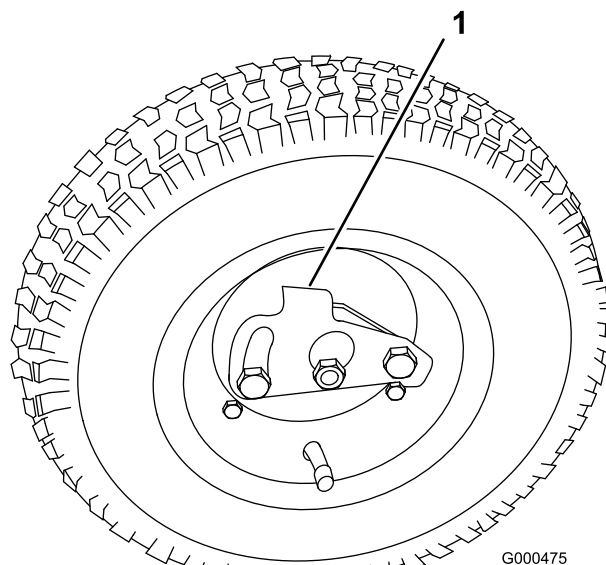

Figure 7
5. Slide the wheel onto the axle (Figure 7).
6. Pivot the wheel locking clip away from center of the wheel allowing it to slide farther onto the axle (Figure 7).